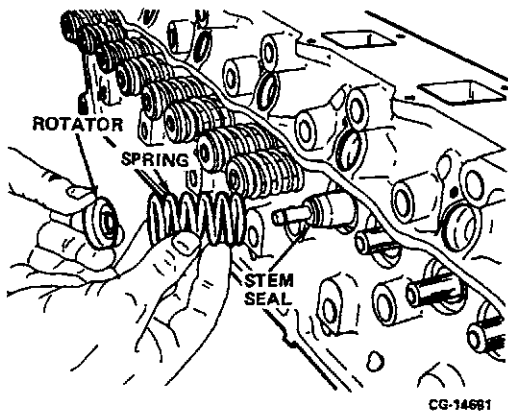

Figure 4.58. Install Valve Spring and Rotator
6. Install the rotator assembly over the valve spring. Refer to Figure 4.58.